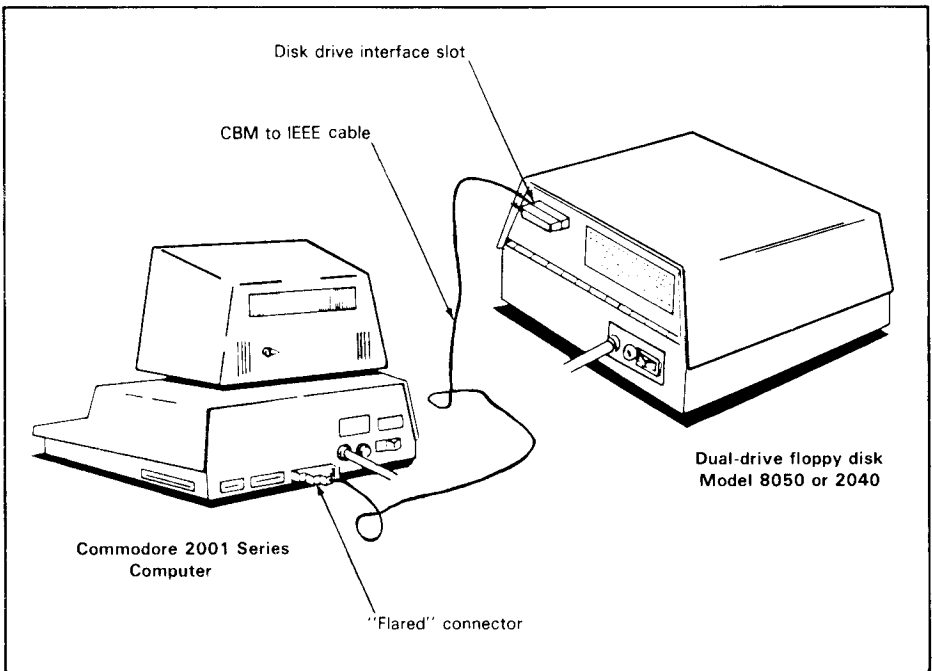

Figure 1-21. CBM-Floppy Disk Drive Connection
2. Using a CBM to IEEE cable, plug the small end into the interface slot on the upper left rear panel of the disk drive (see Figure 1-21). Secure the connector by turning the two screws clockwise until tight.
3. Gently push the “flared” connector into the center interface slot (J1 in Figure 1-5) on the back of the CBM console. Make sure the connector side with “Commodore” stamped on it is facing up. The hookup should look like Figure 1-21.